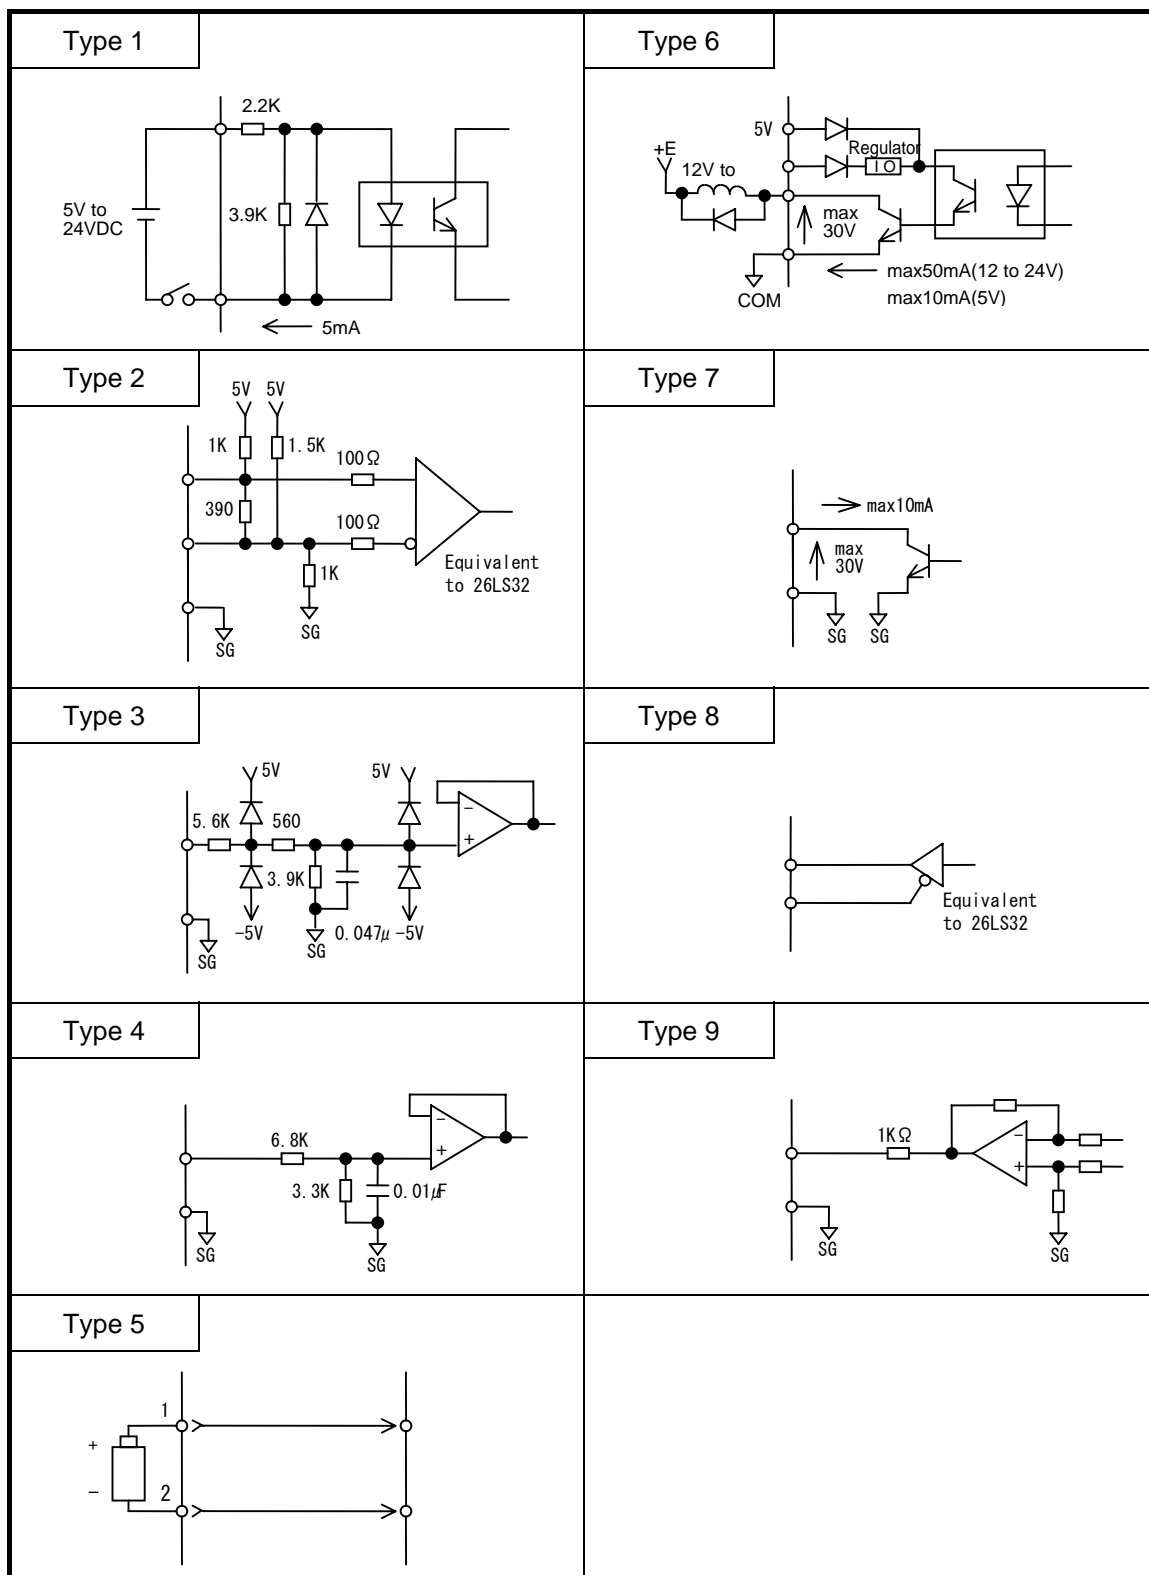

Fig. 9-17
This section explains the general specifications of CN1 input/output signals of the position control type. Fig. 9-17 shows the circuit types of CN1 input/output signals, and Tables 9-7 and 9-8 describe the general specifications.
* 2 For the circuit type, see Fig. 9-17
* 2 For the circuit type, see Fig. 9-17.